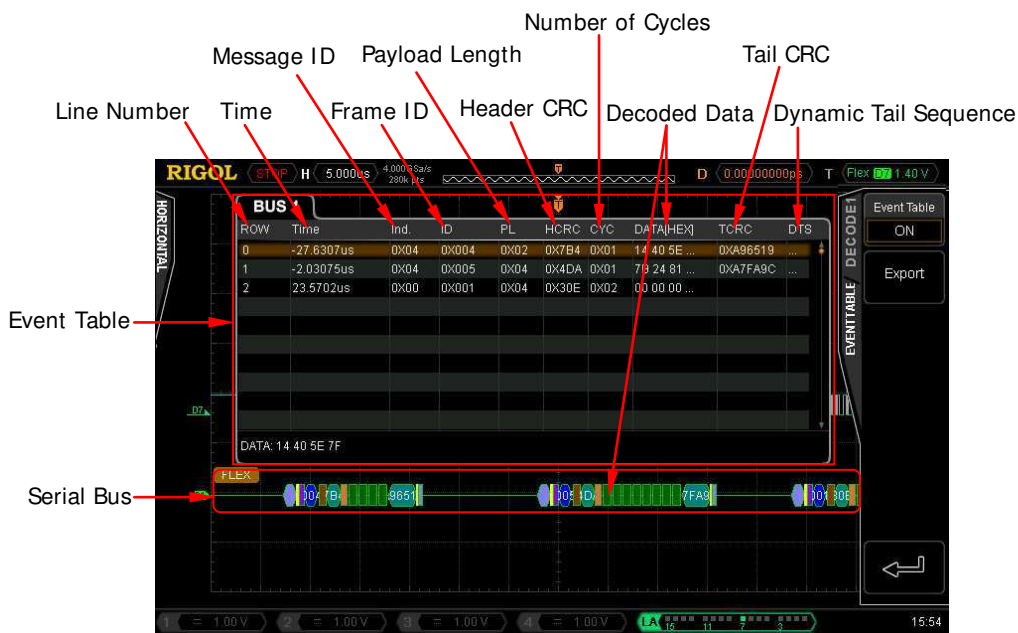

Figure 8-7 FlexRay Decoding
Press **BusStatus** to turn the Decode1 bus display on or off. You can also press **Decode1** to switch the current on/off status of the Decode1 display. When the bus display is turned on, the interface is as shown in Figure 8-7.
- 1) Press **Event Table** to turn on or off the event table. When the event table is turned on, the interface is as shown in Figure 8-7.